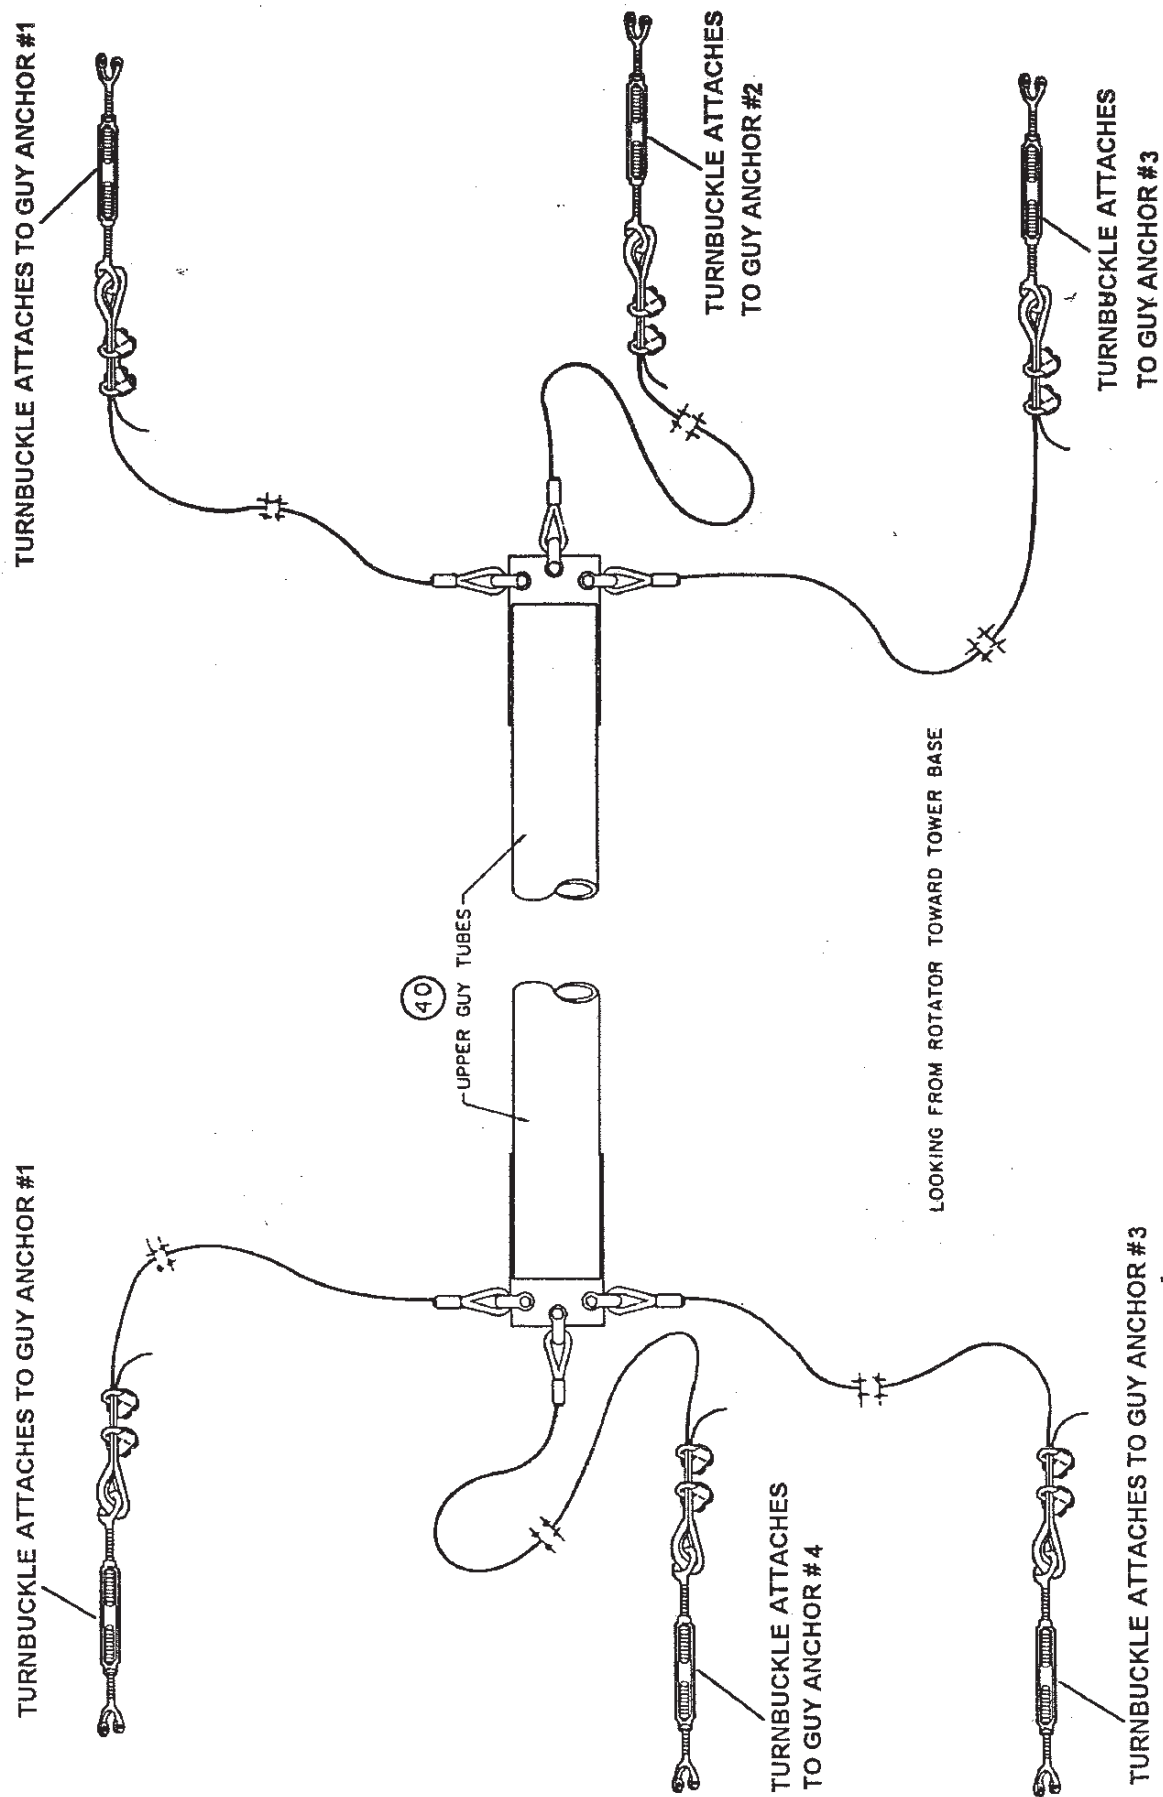

Figure 2-19
- c. Attach the upper guy tubes (Figure 2-19) to the rotator and lock them in place with their detent pins.
- d. Lay out the upper guy wires to the respective anchors as indicated in Figure 2-19.